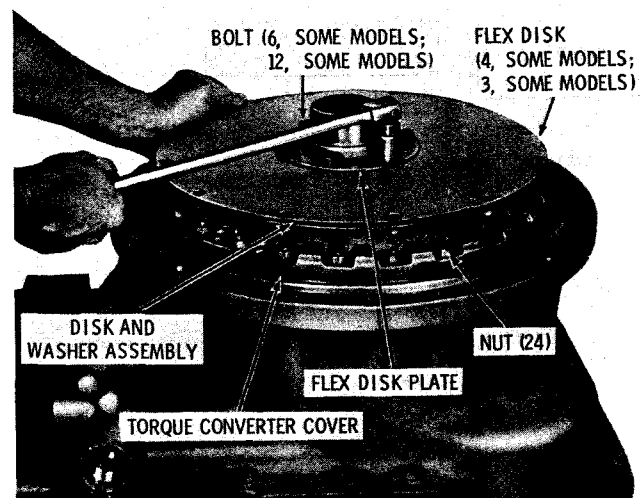

Fig. 5-8. Removing flex disk assembly
(1) On models equipped with 16-inch flex plate drives, remove twelve self-locking bolts (six used for 14 inch-plates) and the flex disk plate that retain the flex disk assembly (fig. 5-8). Then remove the four flex disks (three used for some 14-inch plates) and the disk and washer assembly.
(2) Remove 24 self-locking nuts that retain the torque converter cover (fig. 5-8). Remove the cover.